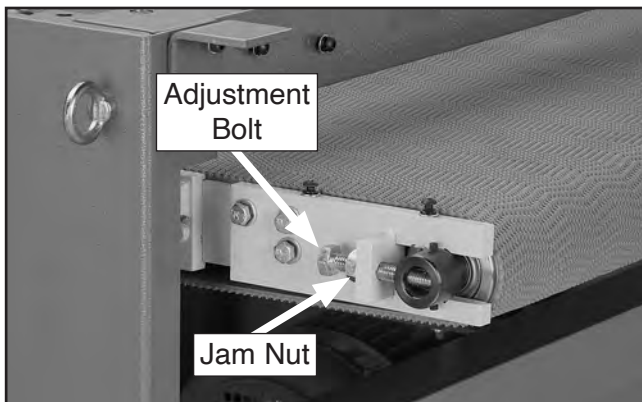

Figure 57. Conveyor tensioning & tracking controls (guard removed for clarity).
2. On each side of conveyor, loosen jam nut (see **Figure 57**), then rotate adjustment bolt *clockwise* to tighten and *counterclockwise* to loosen conveyor belt tension.